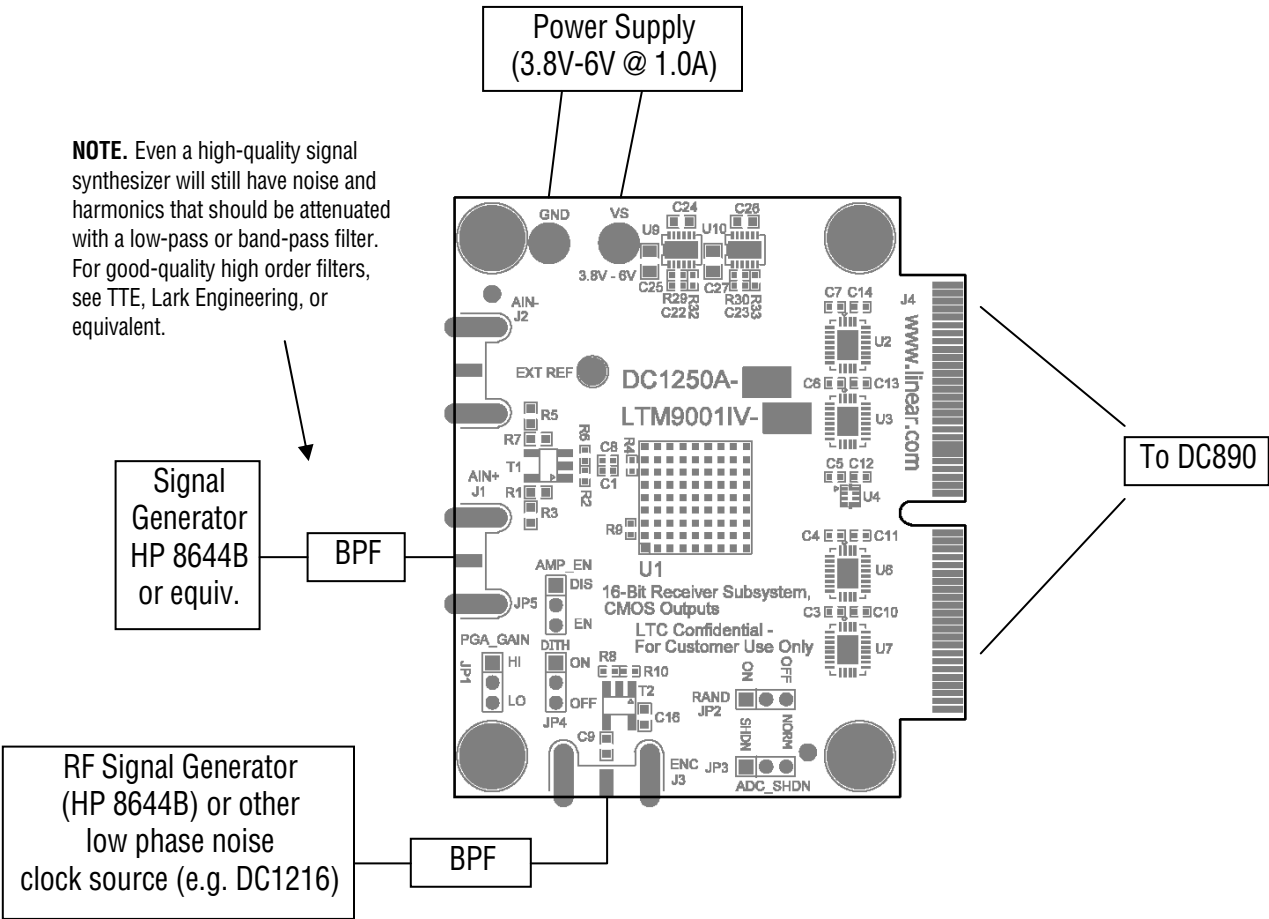

Figure 1. Proper Evaluation Equipment Setup
Validating the performance of the LTM9001 is simple with DC1250, and requires only an input source, a clock source, a computer, and a lab power supply. Refer to Figure 1 for proper board evaluation equipment setup and follow the procedure below:
1. Connect the power supply as shown in Figure 1. There are on-board low-noise voltage regulators that provide the three supply voltages for the LTM9001. The entire board and all components share a common ground. The power supply should still be a low-noise lab power supply capable of supplying at least 1 Amp.